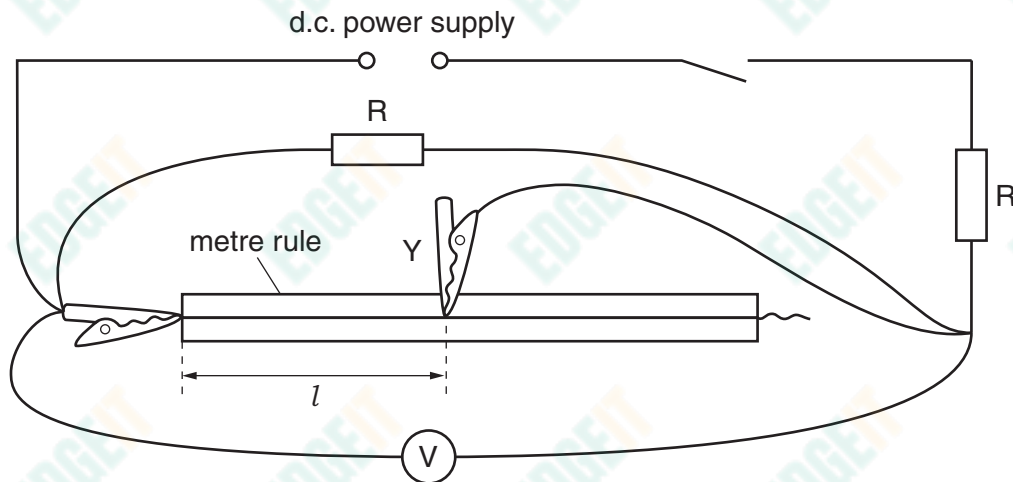

Fig. 1.1
- (b) (i) Using the wire that is taped to the metre rule, set up the circuit shown in Fig. 1.1. Close the switch.